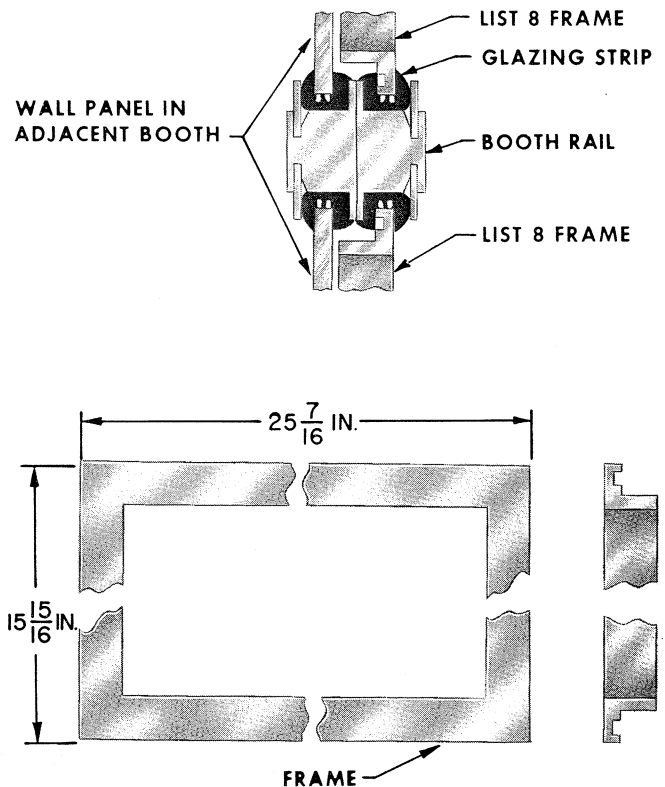

Fig. 13 — KS-16797, List 8 Window Frame
14. KS-16797, LIST 8 OR LIST 108 WINDOW FRAME (FIG. 13)